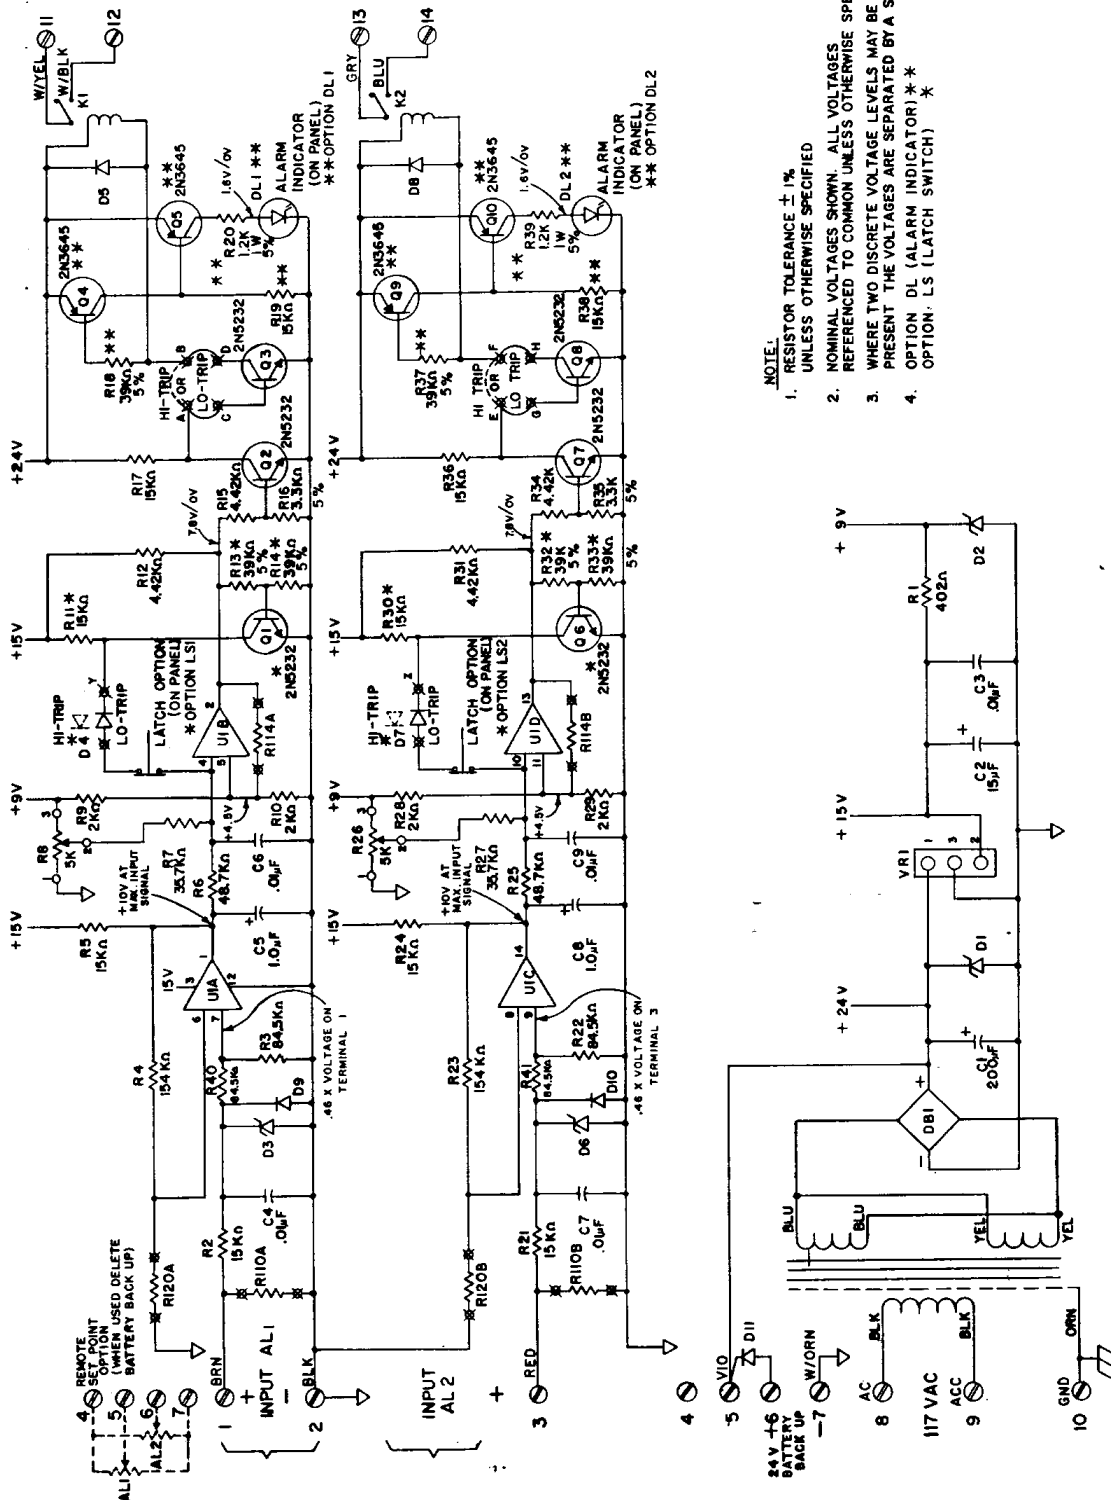

Figure 5-1 - SCHEMATIC, 18-132 HIGH-LEVEL ALARM
- a. Figure 5-1 - Schematic, 18-132 High Level Alarm